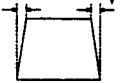

Figure 8
2. Adjust VR406 until Tilt Y $\leq 1.8mm$ (See Figure 8)